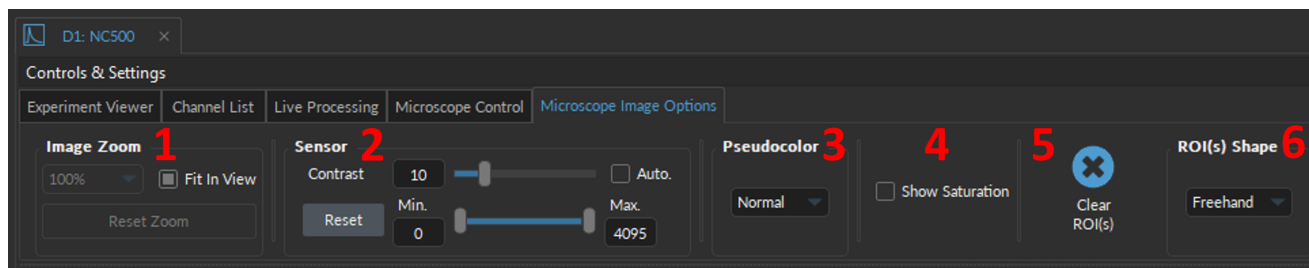

Figure 11.92: Microscope Image Options Tab
1. The **Image Zoom** (Fig. 11.92, 1) includes the following:
2. The **Sensor** (Fig. 11.92, 2) is used to adjust the contrast on a given sensor.
3. The **Pseudocolor** drop-down (Fig. 11.92, 3) maps the pixels values to a pseudocolor range (of 13 possible options) to facilitate viewing.
4. The **Show Saturation** checkbox (Fig. 11.92, 4) is available when using the **Auto Contrast** setting. When enabled, saturation pixels will turn red. This function is only available if no pseudocolor is selected (Pseudocolor set to *Normal*).
5. The **Clear ROI(s)** button (Fig. 11.92, 5) will delete all drawn regions of interest within the **Microscope View**. Note that unless the ROI(s) were previously saved, these ROI(s) cannot be recuperated.
6. The **ROI(s) Shape** drop-down (Fig. 11.92, 6) sets the geometry of the ROI, which can be added at any point, even when not under the **ROI(s) tab** and in **Live** mode (but not when using **Record** mode). Five **ROI(s) Shapes** are available: *Freehand*, *Circle*, *Rectangle*, *Square*, and *Polygon* (Fig. 11.93, 1-5). Multiple shapes can be used within the **Microscope View** simultaneously.